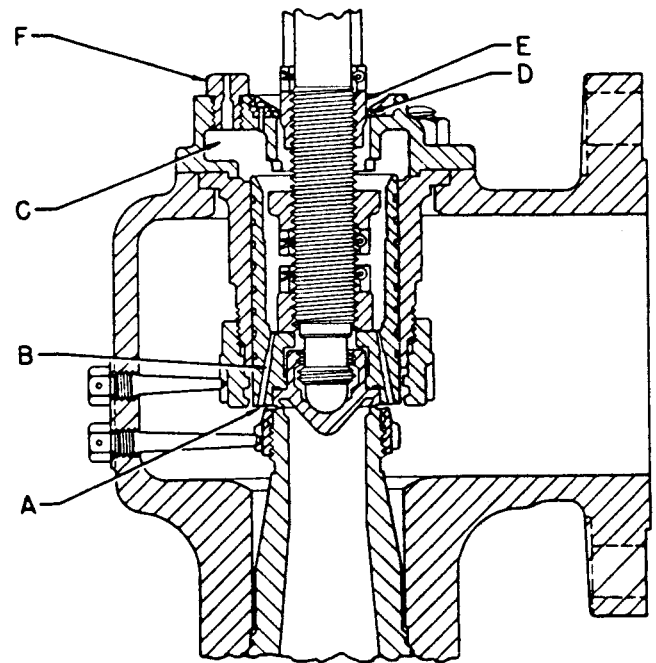

Figure 2
Referring to Fig. 2 it will be seen that when the valve is blowing, a small amount of steam is bled from the huddle chamber (A) through holes (B) into chamber (C) and escapes to the atmosphere between floating washer (D) and overlap shoulder (E) and, also, through orifice in (F).
The orifice plug (F) Fig. 2, regulates the pressure in the back pressure chamber and is installed at the factory and must not be removed.